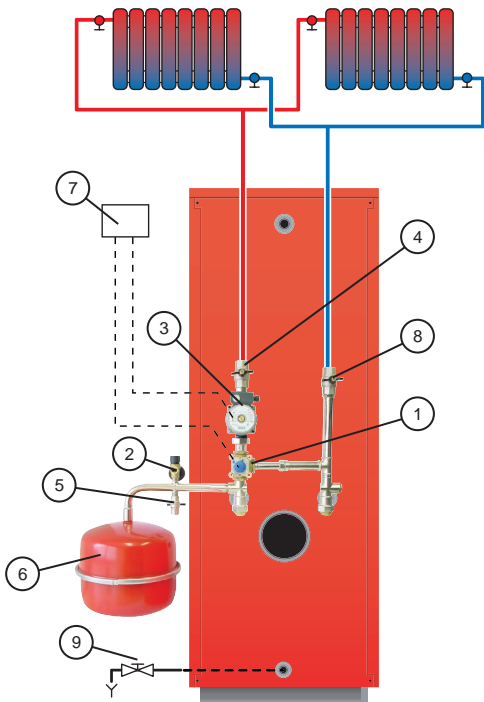

Fig. 18: Heating connection
2. Fill the heating circuit opening valves 4, 5 and 8 - do not exceed a pressure of 2 bar. (Fig. 18, page 13)
### Draining the heating circuit (Fig. 18)